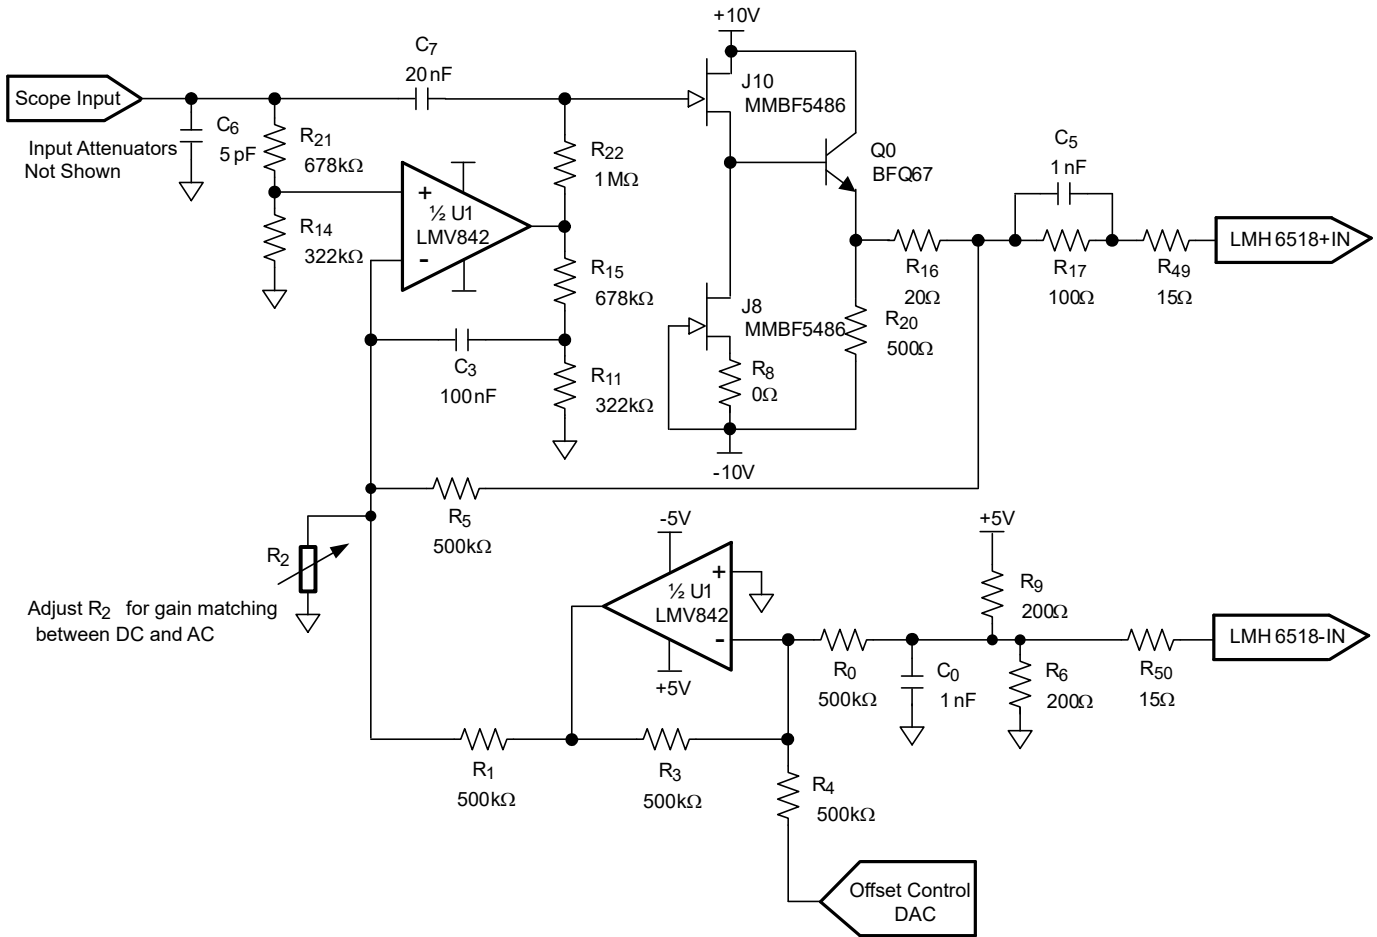
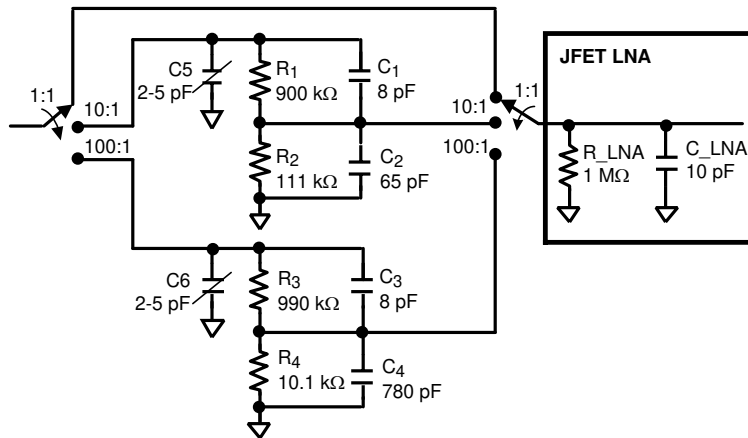

图 7-11. JFET LNA Implementation
图 7-12. Front-End Attenuator for JFET LNA Implementation
- Low noise (< 0.98 nV/ $\sqrt{\text{Hz}}$) to reduce the impact on the LMH6518 noise figure. Be aware that 图 7-1 does not show the necessary capacitors across the resistors in the front-end attenuators (see 图 7-12). These capacitors provide frequency response compensation and limit the noise contribution from the resistors so that the resistors do not impact the signal path noise. For more information about front-end attenuator design, including frequency compensation, see 节 8.2.1 for additional resources.
图 7-11 shows the schematic drawing for a possible implementation of the LNA buffer.
With the values in 图 7-11 $\rightarrow R_2$ approximately $452\text{ k}\Omega$.
图 7-12 shows a front-end attenuator designed to work with 图 7-11.